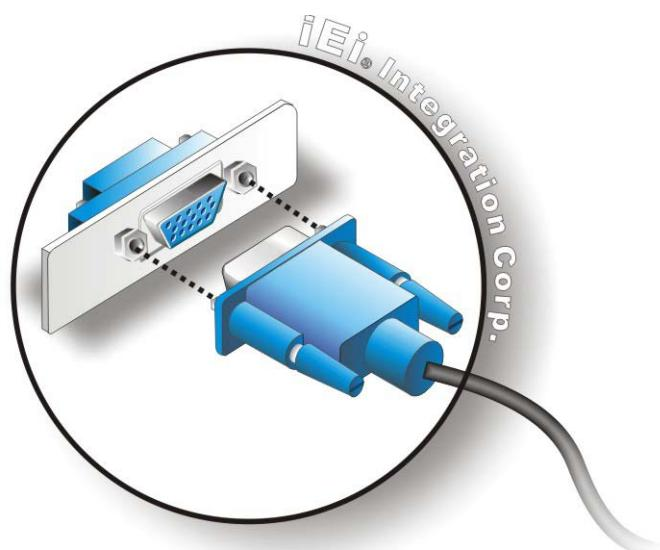

Figure 4-9: VGA Connector
- Step 3: Insert the VGA connector.** Once the connectors are properly aligned with the KINO-SE-i2. See **Figure 4-9**.